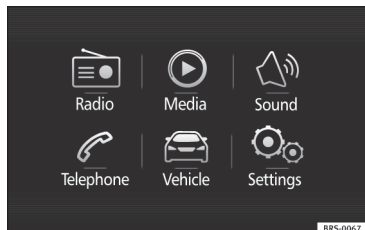

Fig. 45 Easy Connect: Main menu.
- Press the Infotainment button  /  and then the  function button **» Fig. 45**,